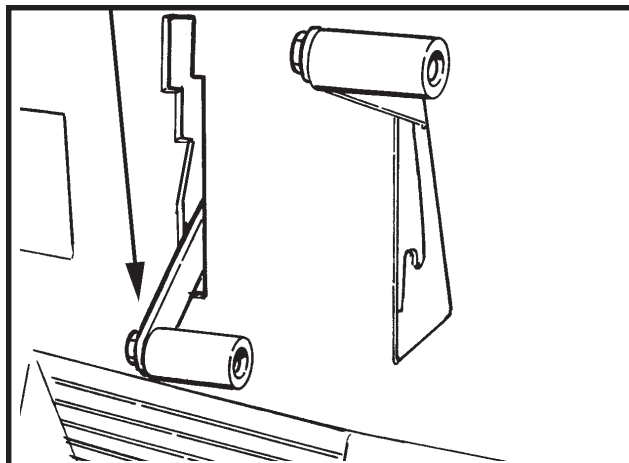

Figure 6
1. To lower the squeegee and start the vac motor, move the squeegee lever to the right and down. See figure 6.